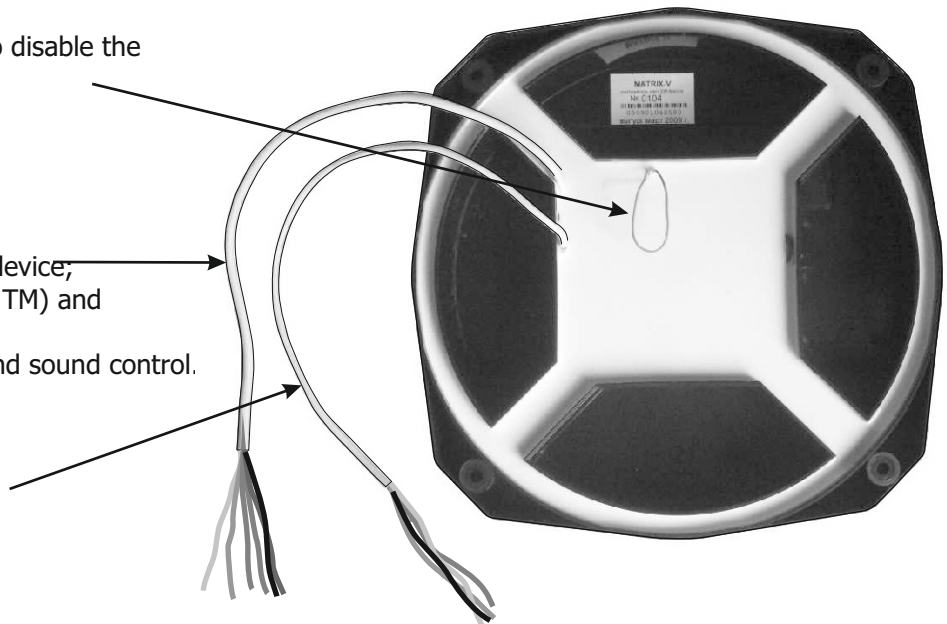

Figure 2. Reader backview.
- Connect the wires per Figures 2, 3, 4, 5.